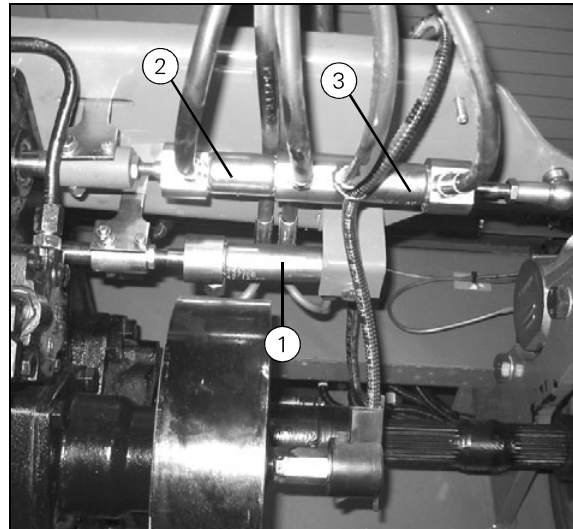

Fig. 13
1. Tilt the cover (A) off and remove both wiper arms.
2. Tilt the outer roof up and remove inspection door (B) (Fig. 13).
4. Remove the lock (F) and pull the connecting rod (G) off.
1. Tilt the outer roof up and remove inspection door (C) (Fig. 13).